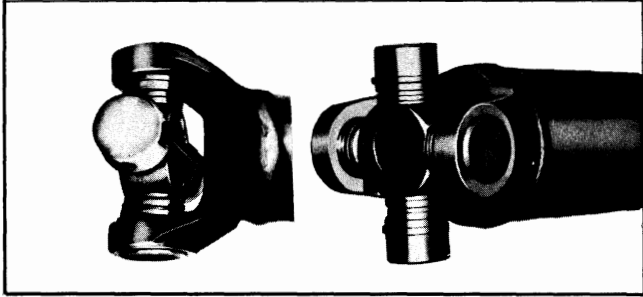

Fig. 4-11 Bearings Held in Place by Retainer Strap
2. Turn down lock plates and remove "U" bolts which hold rear universal joint to companion flange. Use a heavy rubber band or tape to hold bearings onto journal to prevent loss of bearing rollers when joint is disconnected if retainer strap has been removed (Fig. 4-11).